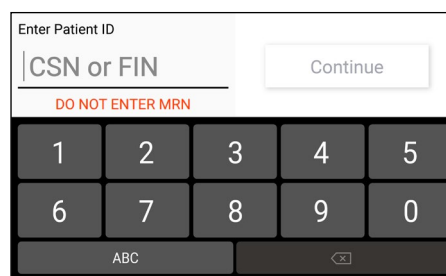

Figure 2. Patient ID entry screen
2. Enter the patient's unique identifier (ID) and press continue. (Fig. 2) The patient ID refers to the patient's numeric or alphanumeric identifier associated with the patient-specific hospital encounter for that admission (i.e. CSN or FIN). This is not the patient's medical record number (MRN).
2. Enter the patient's unique identifier (ID) and press continue (Fig. 2). The patient ID refers to the patient's numeric or alphanumeric identifier associated with the patient-specific hospital encounter for that admission (i.e. CSN or FIN). This is not the patient's medical record number (MRN).